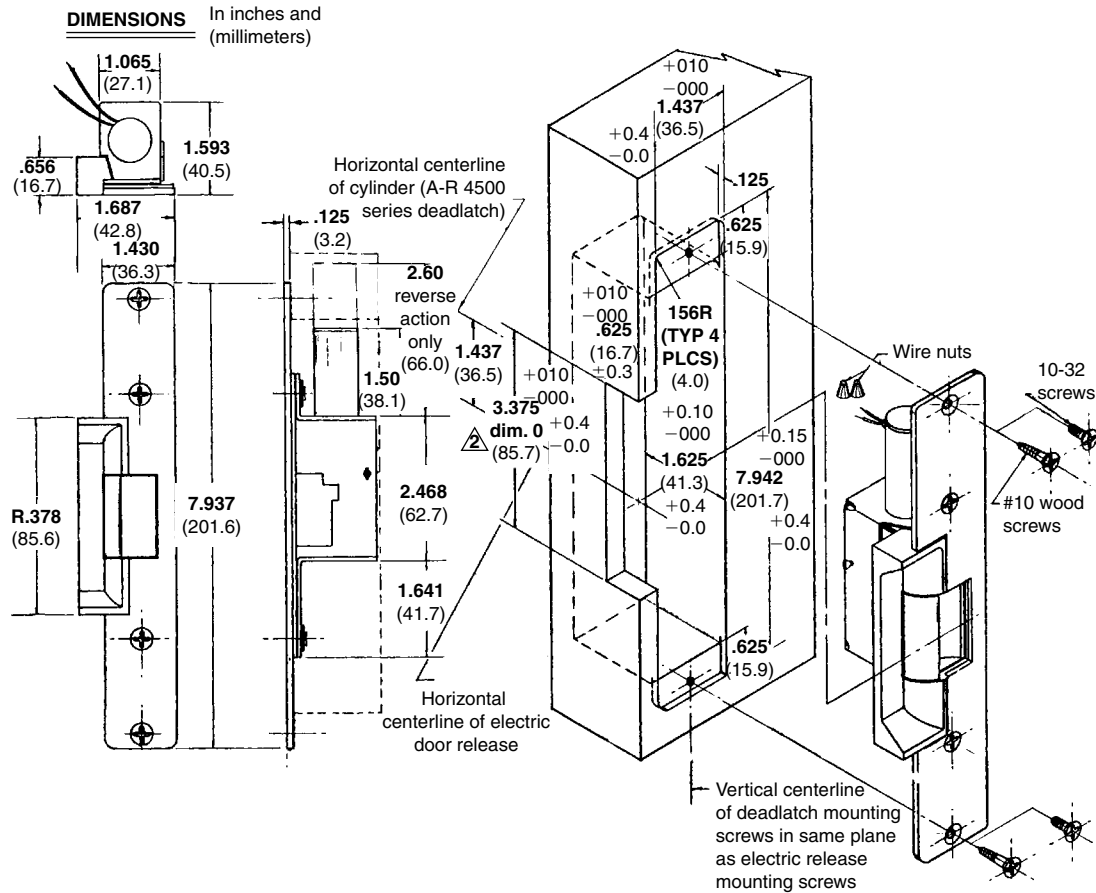

Figure 19.3 Dimensions and installation details for unit to be mounted in a wood frame.
1. Prepare the jamb to the dimensions shown in Fig. 19.3. Take care to mortise the cut to clear the solenoid.
Figure 19.3 also shows the dimensions of the 7510 electrical door release unit.